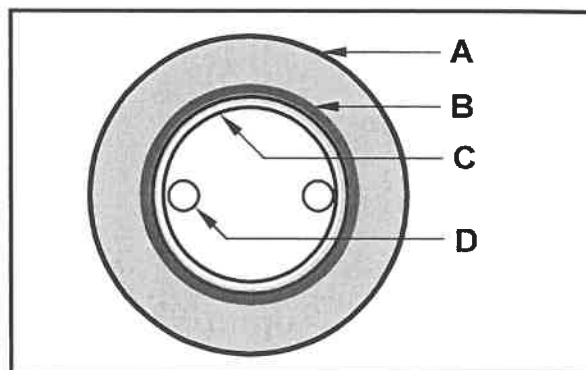

FIGURE 4.9
- 4.9 FIGURE 4.9 below is a sectional view of a tube in a solar water heating system.